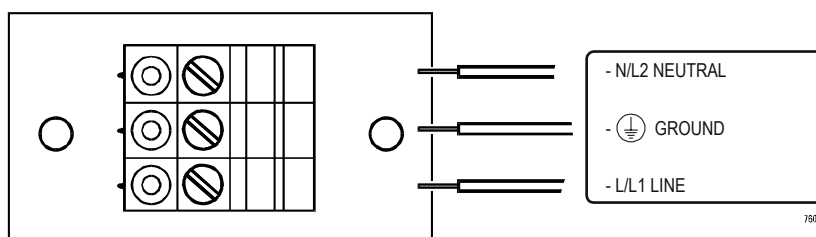

Figure 6: Connecting AC power cable wires to connectors
4. Insert the stripped end of the AC power cable wire (neutral) into the terminal strip's side connector (Figure 6).